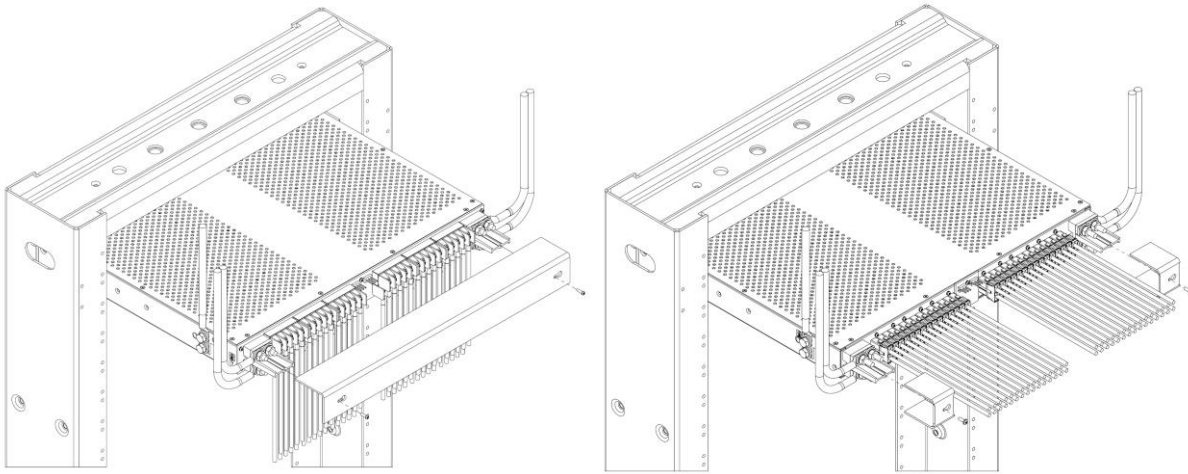

Fig. 2-14: Rear Cover
44. Install rear plastic cover using provided hardware, as shown in fig. 2-14.